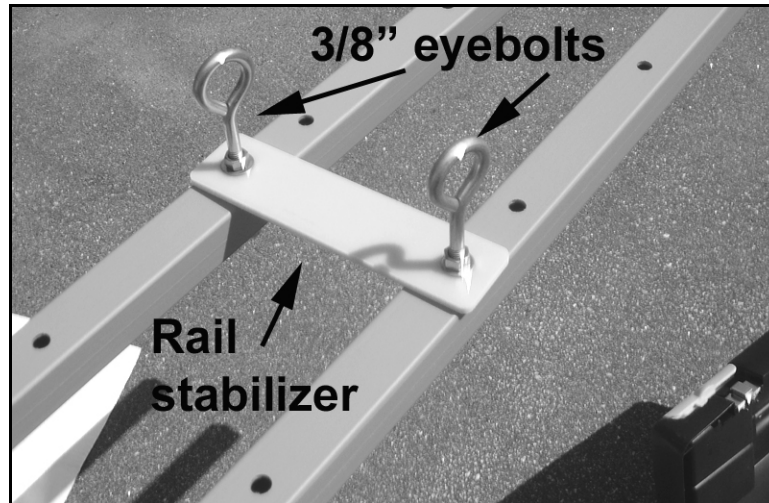

Figure 6: Rail stabilizer.
Step 4: Attach the fiberglass rail stabilizer to the rails with the 3/8" eyebolts. Secure with the 3/8" flat washers and 3/8" hex locknuts (Figure 6). The eyebolts are also the attachment point for the ratchet straps.